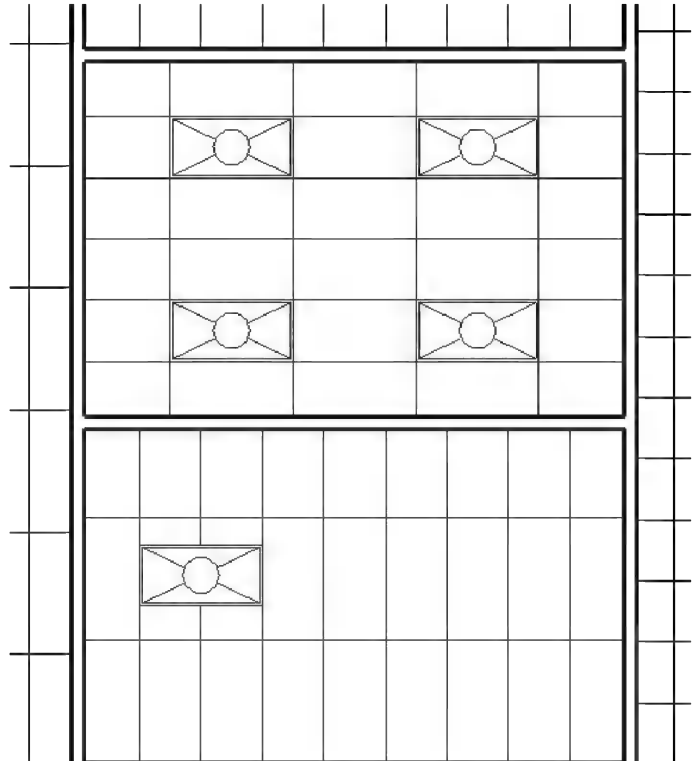

FIGURE 7-3.4 RCP; lights added
8. Now place another **2x4 light fixture** as shown in **Figure 7-3.4**.